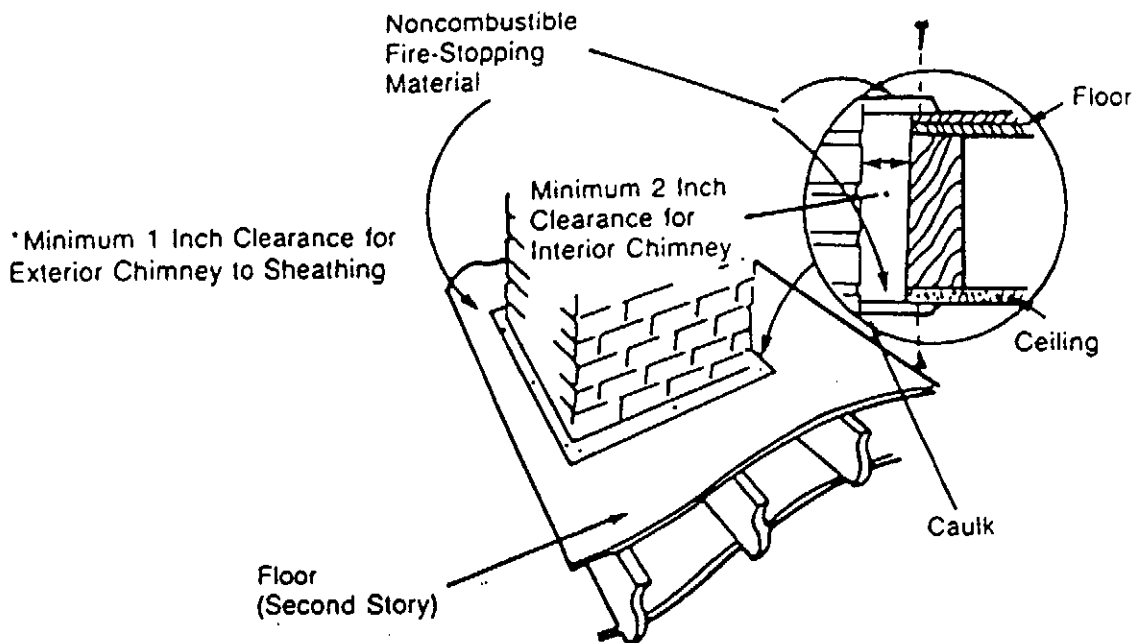

FIGURE 10
3. A chimney inside the house must have at least 2 inches of clearance to the combustible structure. A chimney outside the house must have at least one inch clearance to the combustible structure. Fire stops must be installed at the spaces where the chimney passes through floors and/or ceiling (FIGURE 10).